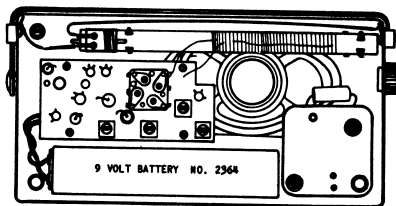

Fig. 2 REAR VIEW - BACK REMOVED
2. Unplug and remove battery - FIG. 2.